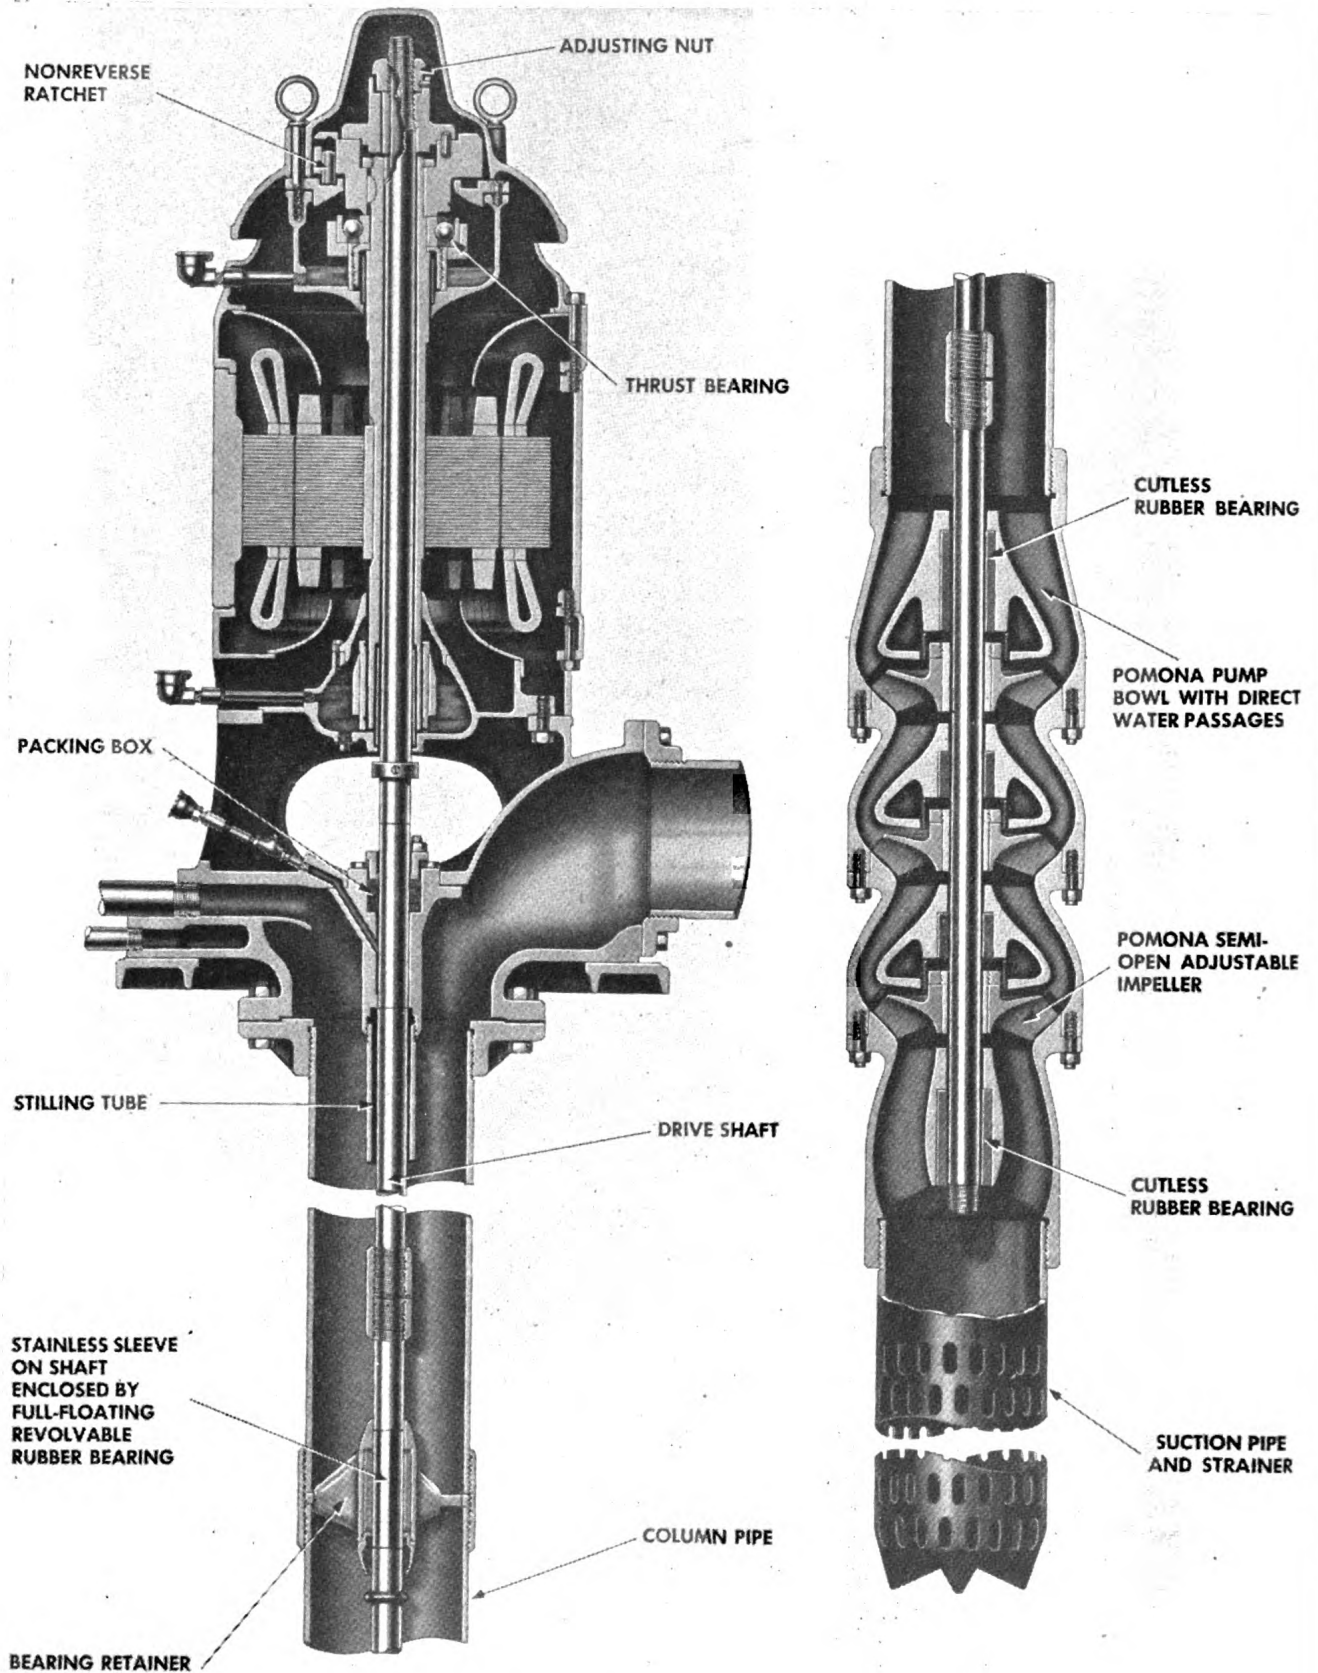

Figure 33. Open-impeller deep-well pump, water lubricated.
Turbine type well pumps have either open or inclosed impellers and either water- or oil-lubricated shaft bearings (figs. 33 and 34). Maintenance and troubleshooting procedures for these pumps are discussed in *i* below.
(2) *Open or semi-inclosed impeller pumps.* See typical open impeller pump shown in figure 33. To adjust impeller allow for stretch of shaft when pump is running with thrust load on it; see manufacturer's instructions for detailed procedure.